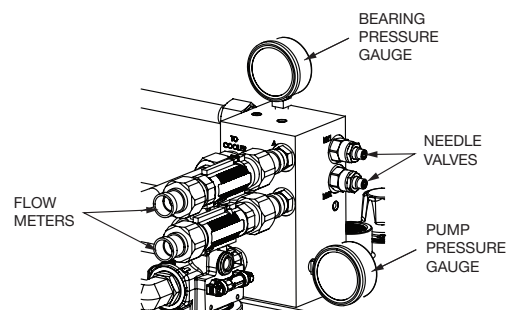

Figure 2 - Controls
3. Connect oil supply lines (not included) from the two 1/2" NPT (female) outputs of the flow meters to the circulating oil inlets on the housings. Connection details for each type of Sleeveoil bearing are provided in sections following (see Figure 2).